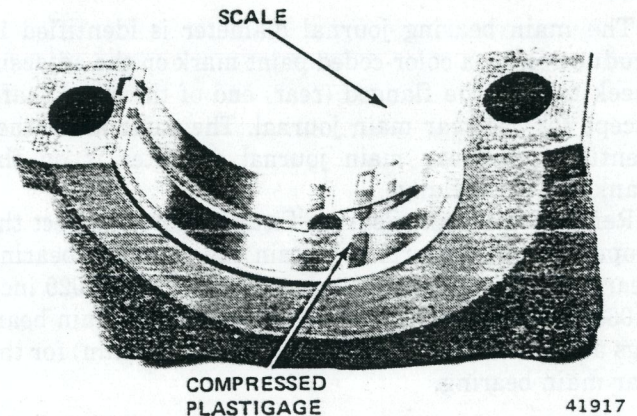

Fig. 1B-149 Measuring Main Bearing Clearance with Plastigage
(1) Support weight of crankshaft with jack placed under counterweight adjacent to journal being measured.
- (2) Remove main bearing cap and lower insert.
- (3) Wipe insert and exposed portion of crankshaft journal clean.
- (4) Place strip of Plastigage across full width of bearing insert.
(5) Install bearing cap and tighten retaining screws with 100 foot-pounds (136 N•m) torque.
(6) Remove bearing cap and determine amount of clearance by measuring width of compressed Plastigage with scale on Plastigage envelope. Correct clearance is 0.0015 to 0.0020 inch (0.038 to 0.051 mm) for No. 1 through No. 4 main bearings and 0.0025 to 0.003 inch (0.064 to 0.076 mm) for rear main bearing (fig. 1B-149).